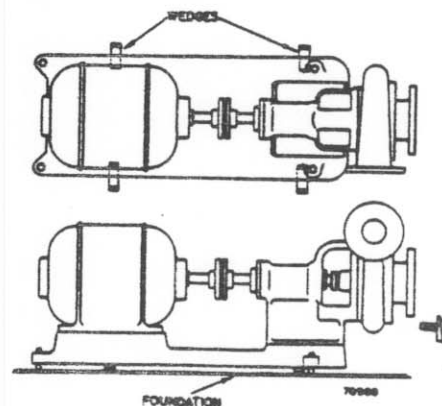

Fig. 2
- (a) Put the pumping unit in place on the wedges furnished. The wedges should be placed at four points, two below the approximate center of the pump and two below the approximate center of the driver (See Fig. 2). Some installations may re-